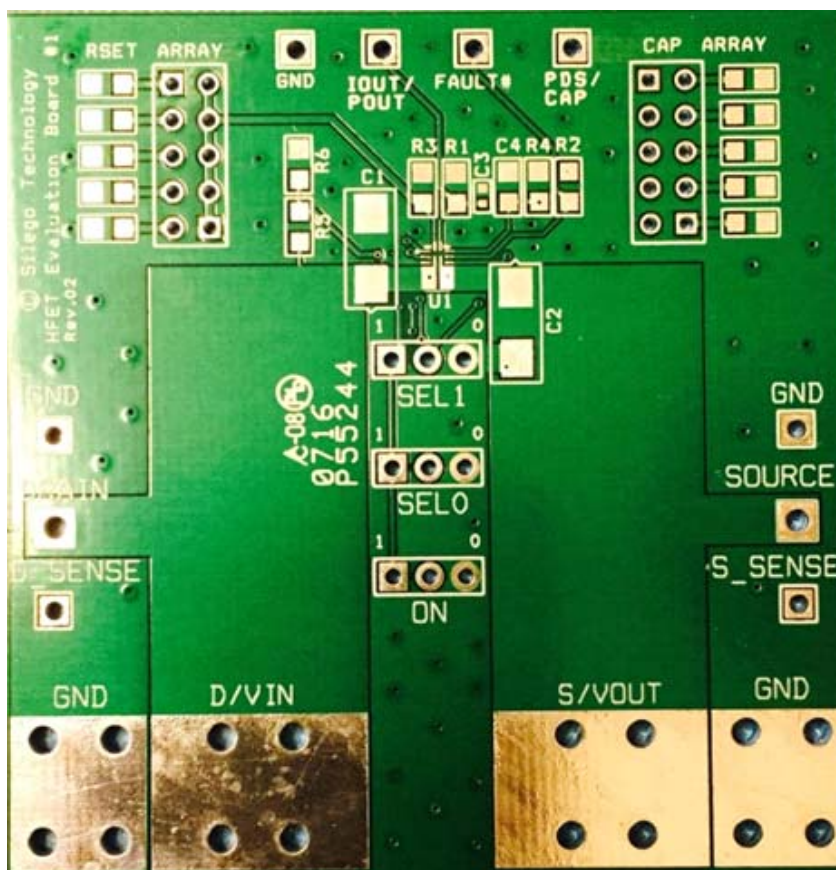

Figure 14. SLG59H1008V Evaluation Board
1. Since the VIN and VOUT pins dissipate most of the heat generated during high-load current operation, it is highly recommended to make power traces as short, direct, and wide as possible. A good practice is to make power traces with absolute minimum widths of 15 mils (0.381 mm) per Ampere. A representative layout, shown in Figure 14, illustrates proper techniques for heat to transfer as efficiently as possible out of the device;
A HFET1 Evaluation Board for SLG59H1008V is designed according to the statements above and is illustrated on Figure 14. Please note that evaluation board has D\_Sense and S\_Sense pads. They cannot carry high currents and dedicated only for RDSON evaluation.